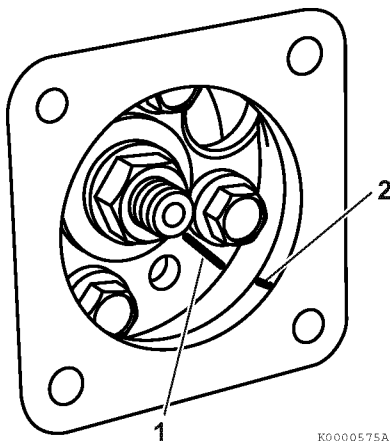

Figure 7-11
- On 3TNV88F engine the idler gear is not visible. Make a reference mark on the fuel injection pump drive gear (**Figure 7-11, (1)**) and a matching mark on the bore of the gear case opening (**Figure 7-11, (2)**).